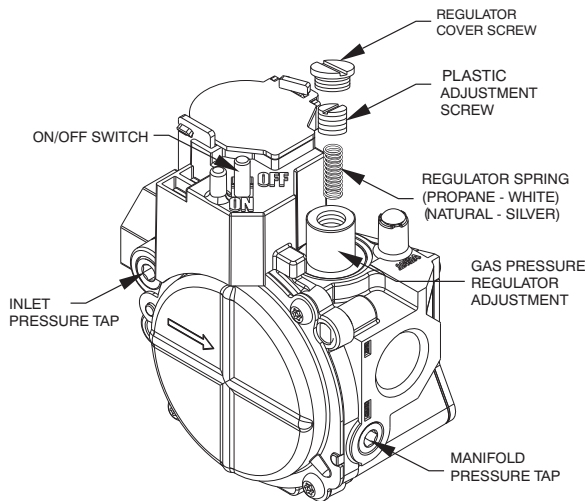

Fig. 29 – Single-Stage Gas Valve
1. Remove regulator cover screw over plastic adjustment screw on gas valve (See Fig. 29).
2. Turn plastic adjustment screw clockwise to increase gas input, or turn plastic adjustment screw counterclockwise to decrease input (See Fig. 29). Manifold pressure must be between 3.2 and 3.8 IN. WC.
3. Replace regulator cover screw on gas valve (See Fig. 29).
4. Turn off gas supply to unit. Remove manometer from pressure tap and replace pipe plug on gas valve. (See Fig. 27.) For Ultra Low NOx models, replace pressure tap cover using an allen wrench (see Fig. 29.) Turn on gas to unit and check for leaks.